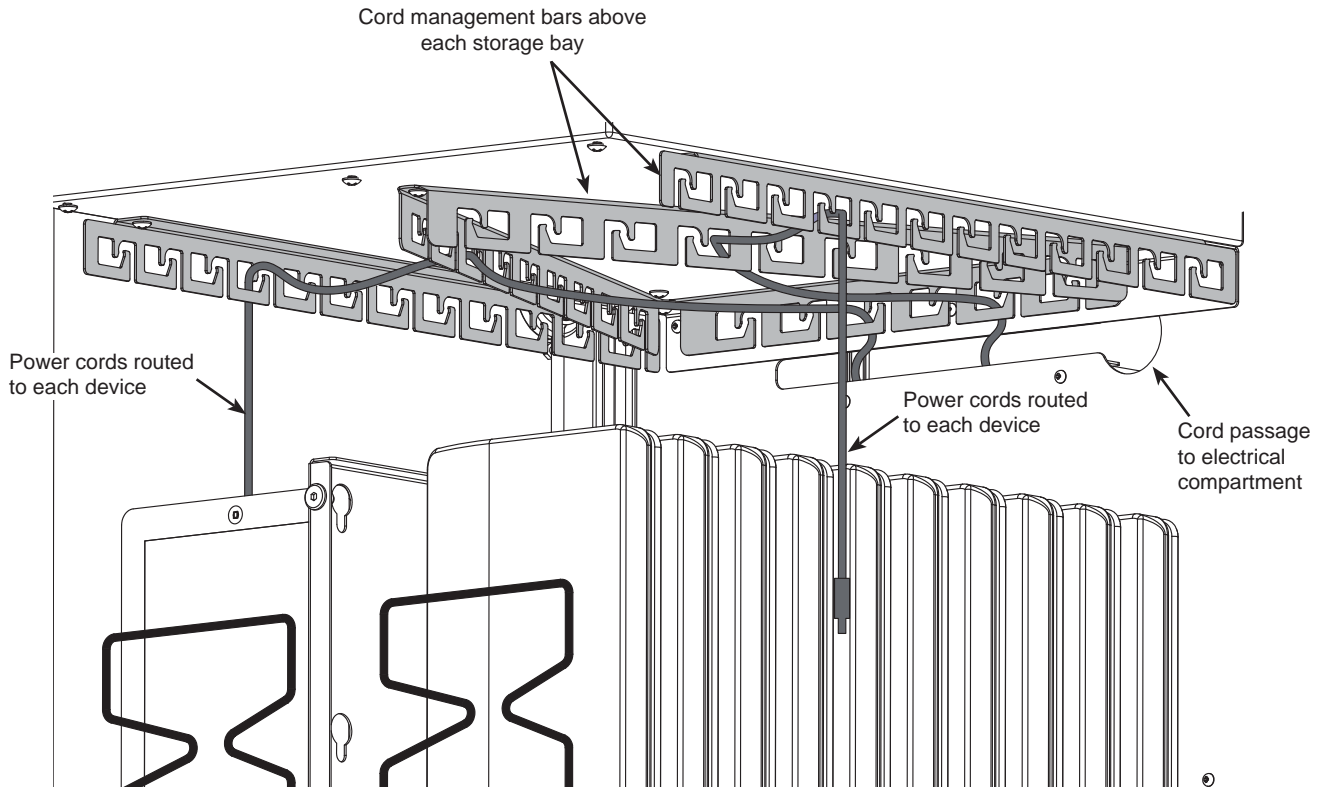

Figure 7
- Figure 7.** Each power cord should hang directly above each device.